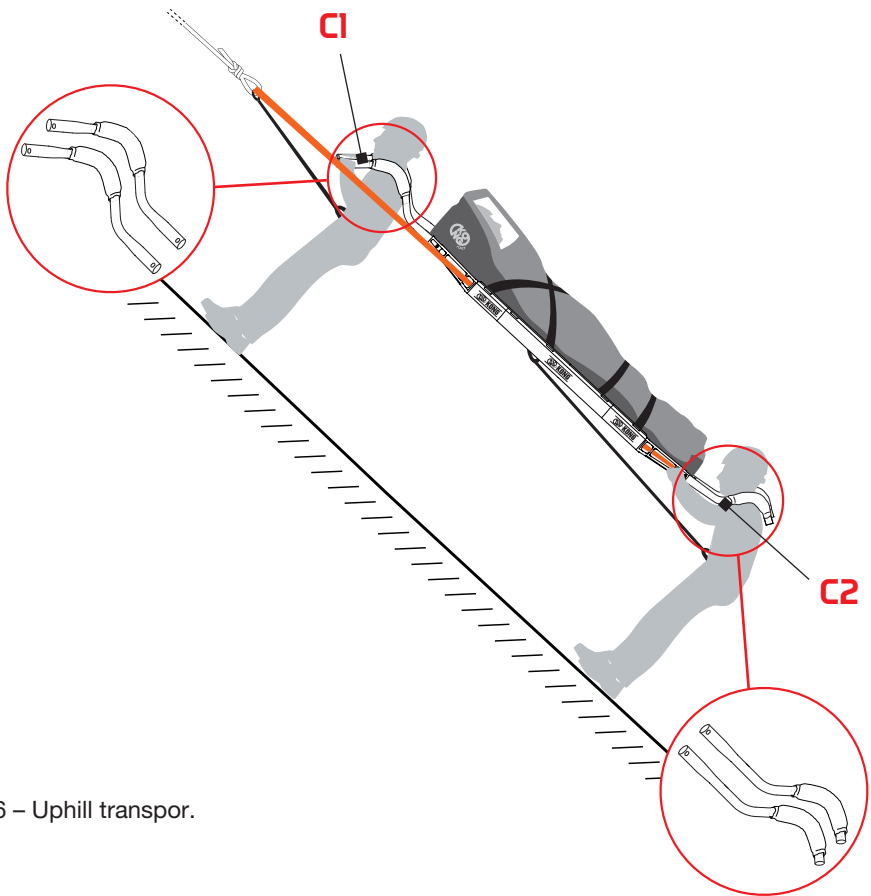

Fig. 26 – Uphill transpor.
- loosen the transversal and longitudinal belts (fig. 26) and remove them from the through elements;